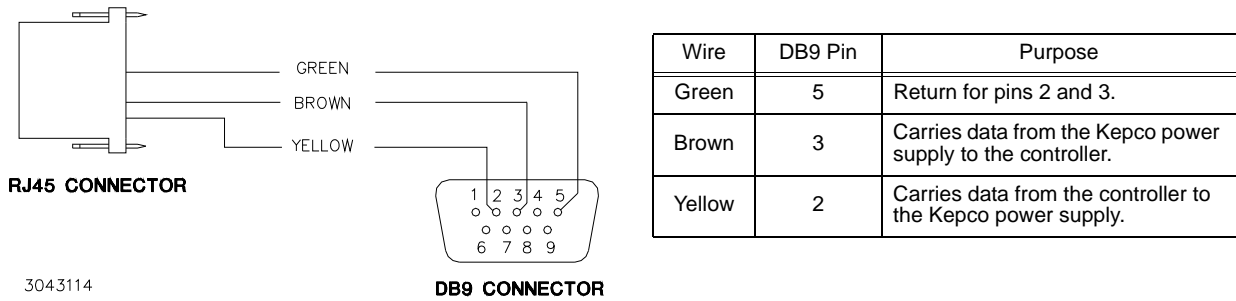

**FIGURE 1. OPEN FILE EXPLORER AND SELECT MANAGE**
- a. Open File Explorer from the task bar (see Figure 1).